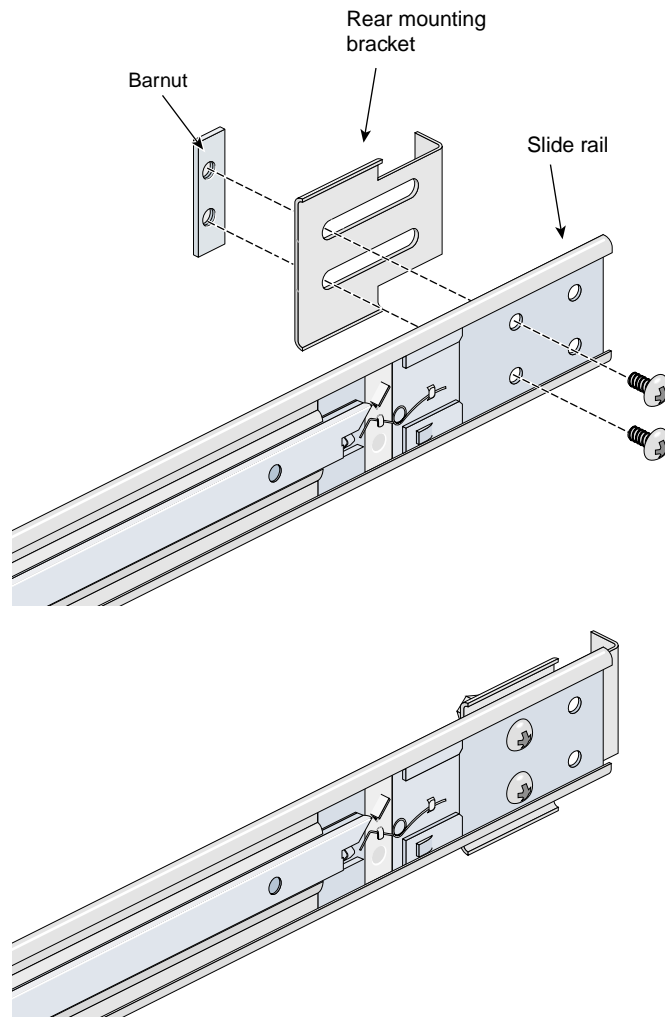

Figure 2-3 Attaching the Rear Mounting Bracket to the Slide Rail
4. Place one of the mounting brackets on the back of the slide rail as shown in Figure 2-3. Adjust the position of the mounting bracket on the slide rail according to the depth of the rack.
5. Place a barnut next to the mounting bracket. Secure the mounting bracket to the slide rail by inserting two 10-32 x 1/2" screws through the assembly and into the barnut as shown in Figure 2-3.